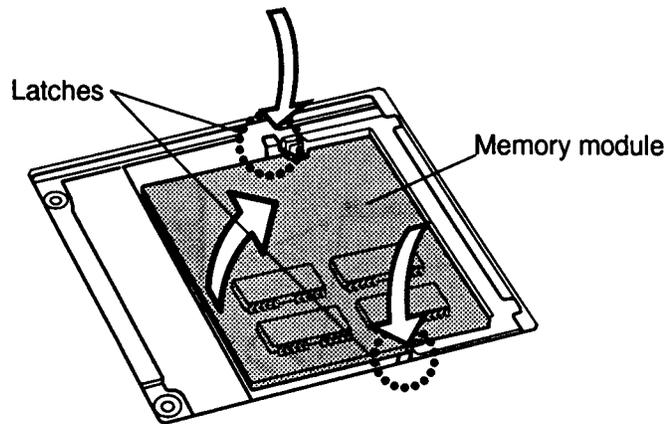

Figure 4-5 Removing the memory module
6. **Two latches** on each side of the module hold it in place. Press these to the outside to release the module. The side of the module away from the connectors will spring up (Figure 4-5).
3. Fit the socket cover's latches into place and seat the cover (Figure 4-5).